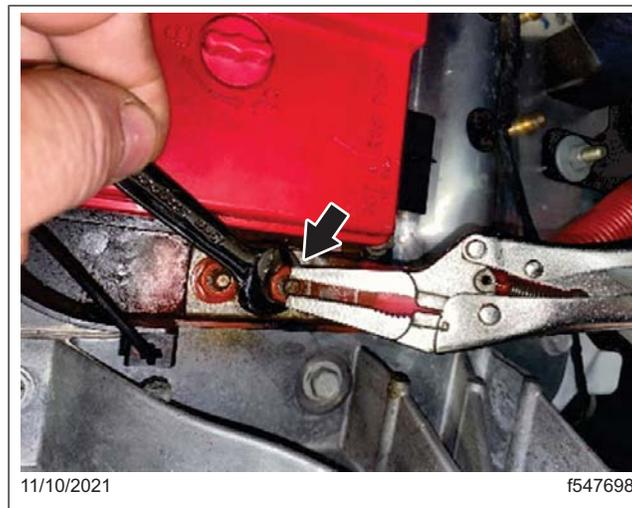

Fig. 48, Holding Stud and Tightening with Wrench
2. Remove the two nuts and washers installed for the spinning stud repair, then position the 29A battery cable on the BCA battery studs. Use two new stainless steel nuts (23-12612-008), apply a drop of LOCTITE® Blue 242 to the area of the studs where the tightened nuts will overlap. Install the washers and the new nuts. Hold the end of each stud with vise grip pliers, then tighten each nut with a 13 mm box end wrench to secure the newly installed copper cable to the BCA. Tighten the nuts 10 to 12 lbf·ft (14 to 16 N·m). See Fig. 48.